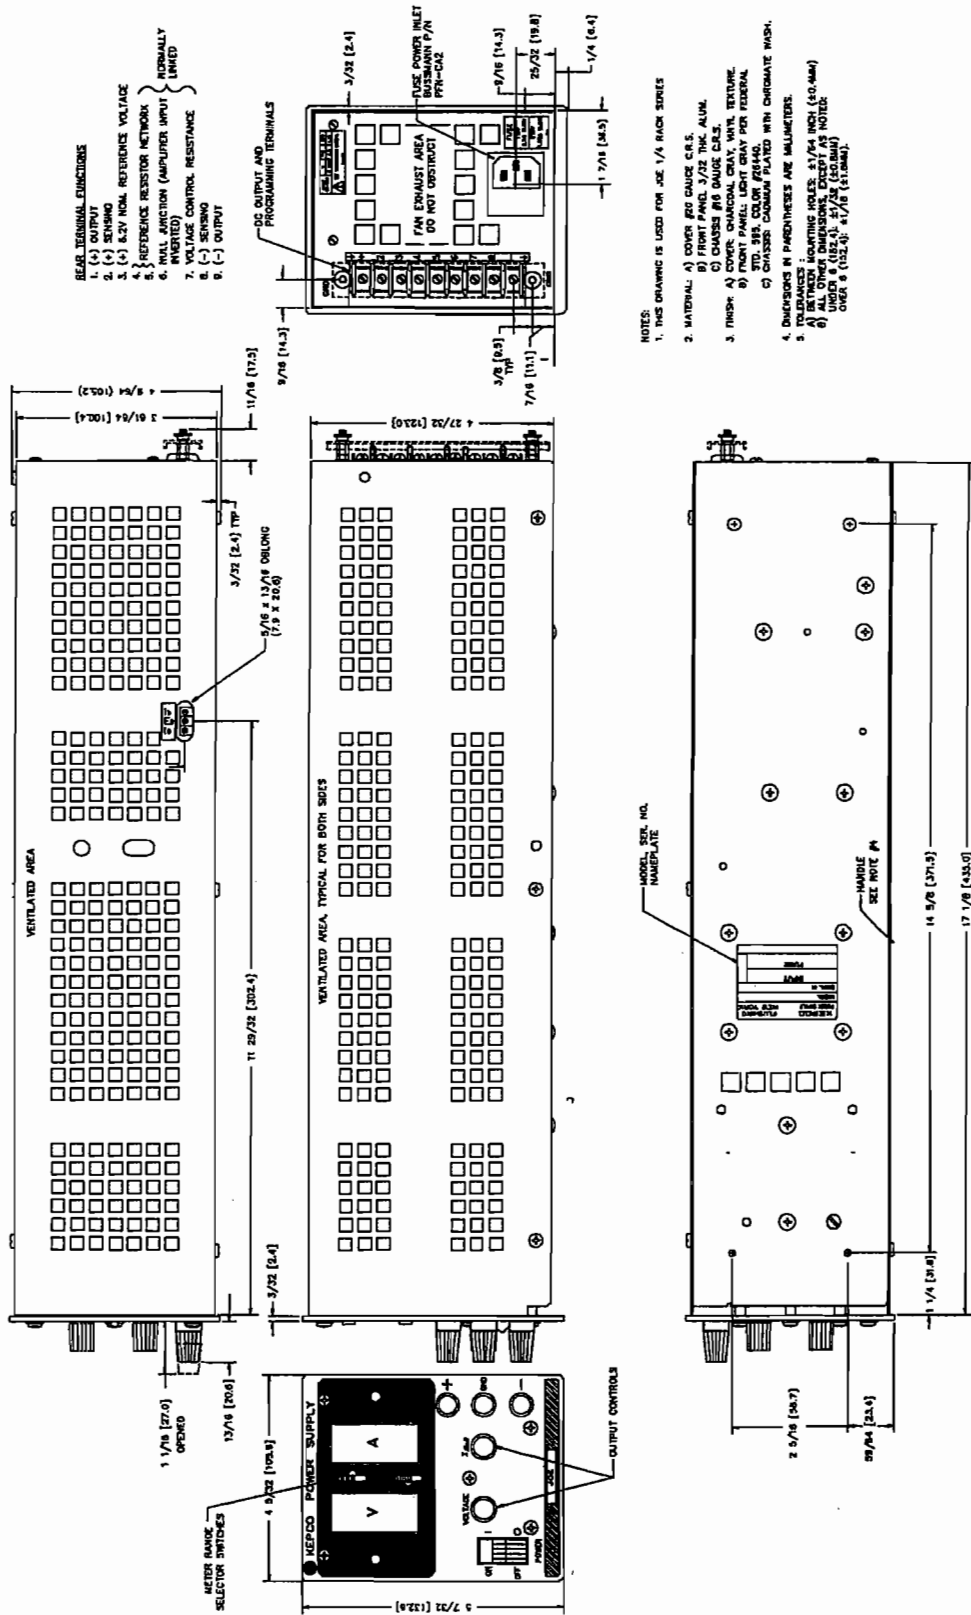

FIGURE 1-1 JQE 1/4 RACK MECHANICAL OUTLINE DRAWING
2.10 INSTALLATION (Refer to FIG. 1-1 "Mechanical Outline Drawing").